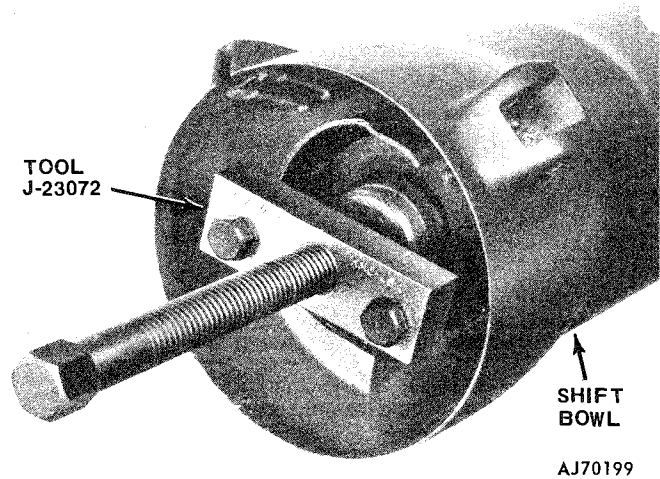

Fig. 2J-39 Shift Tube Removal
(40) Remove ignition switch.
(41) Remove neutral safety switch from base of column.
(42) Remove lock rack and remote rod.
(43) Remove lower bearing retainer snap ring and remove retainer, bearing, and adapter.
(44) Remove screws attaching support to shift bowl and remove support. Use 1/4-inch, 12-point deep socket to remove screws.
(45) Remove shift gate screws and remove shift gate from support.
(46) Remove shift tube retaining ring and thrust washer.
(47) Remove shift tube from column jacket using Shift Tube Remover Tool J-23072 (fig. 2J-39).
(48) Remove retainer plate by rotating shift bowl clockwise, sliding plate out of jacket notches, tipping it down toward shift bowl hub at 12 o'clock position and removing plate-bottom side first (fig. 2J-40).
(49) Remove wave washer and shift tube spring.
(50) Remove shift bowl from column jacket.